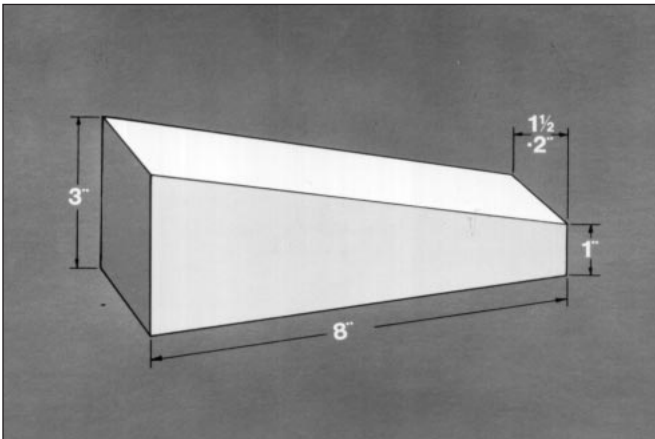

Figure 1
1. Before starting, it may be necessary to fabricate a helper block. It can be made from hardwood or steel. Refer to *Figure 1* for proper dimensions.